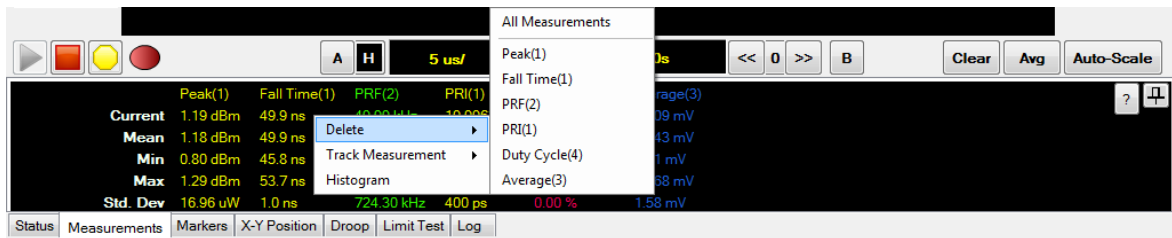

Figure 2-107 To delete measurement results on the multi-purpose pane
- 2 To remove all measurement functions results from the Measurement view, select the Measurement view area to display the delete measurement menu and select **Delete > All Measurements**. To remove only specific measurement function results, select **Delete > [measurement function]** as shown in Figure 2-107.